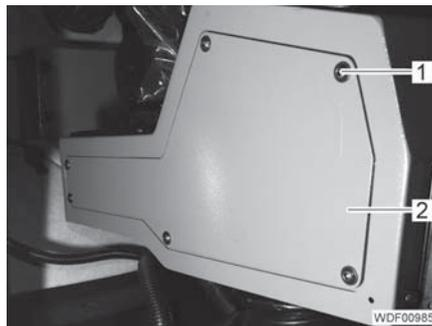

Fig. 35 Cover attachment
- Unscrew the 6 screws (Fig. 35,1).
- Remove the cover (Fig. 35,2).
- Position the cover (Fig. 35,2).
- Screw in and tighten the 6 screws (Fig. 35,1).